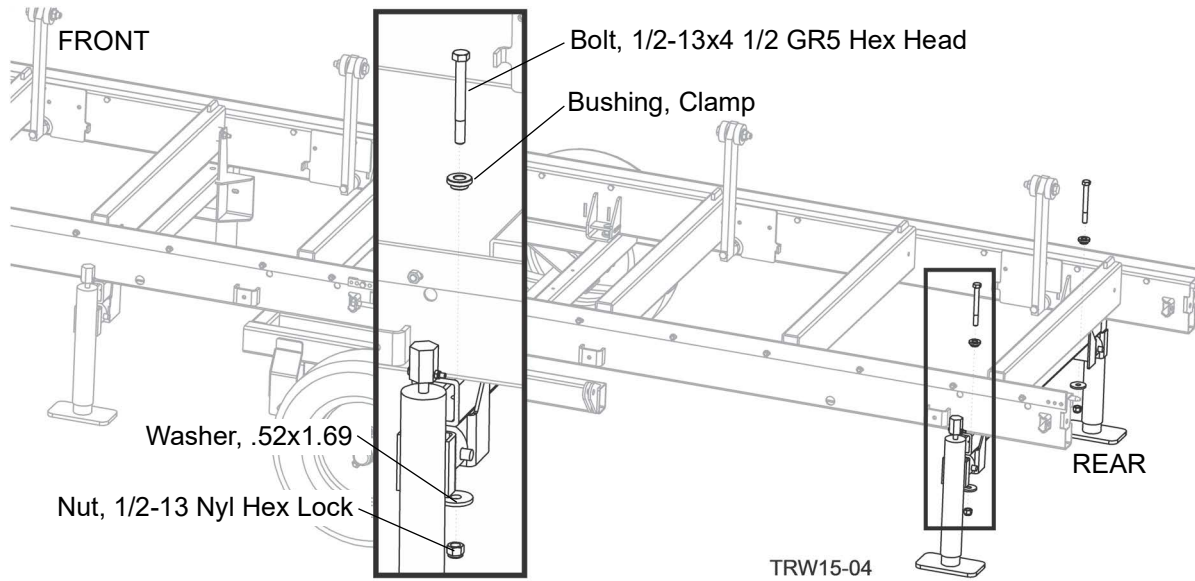

FIG. 2-6
10. Secure the rear jack assembly to the bed frame as shown in Fig. 2-6.